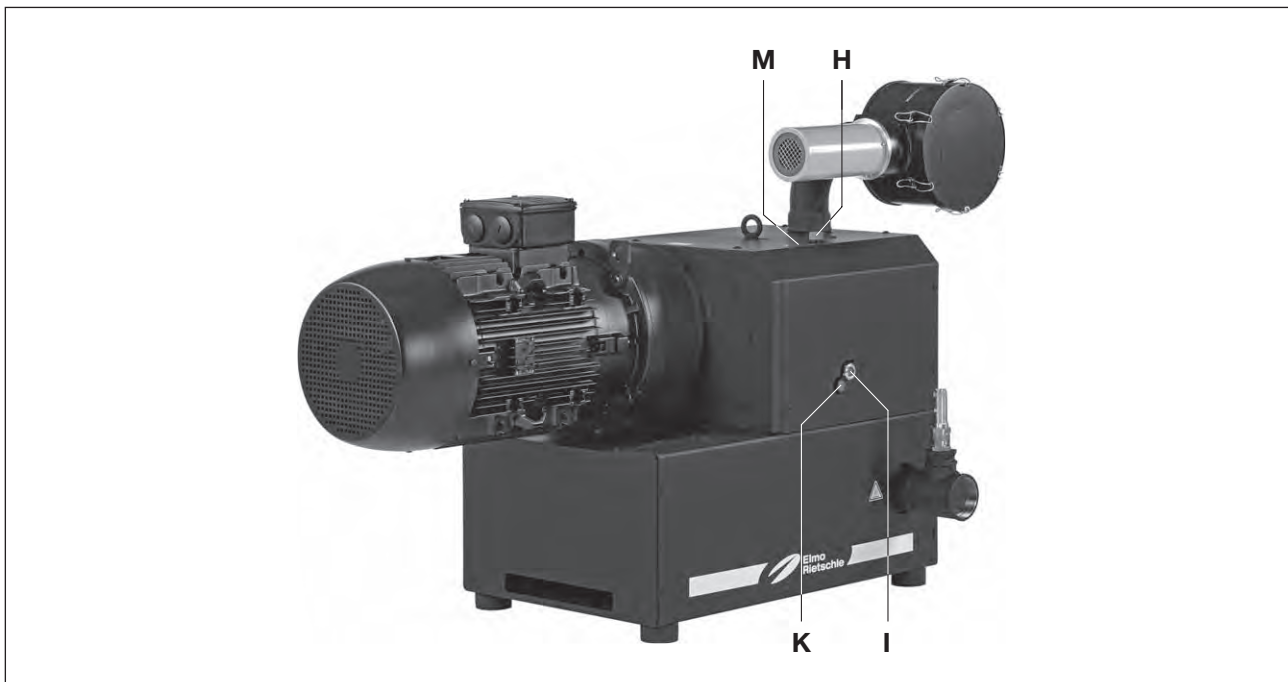

Fig. 3 Changing the oil
The oil level in the sight glasses (Fig. 3/I) must be checked every month.
*We recommend the following oil brand: GEAR-LUBE 150 or equivalent oils by other manufacturers (also see oil recommendation plate (Fig. 3/M)).*